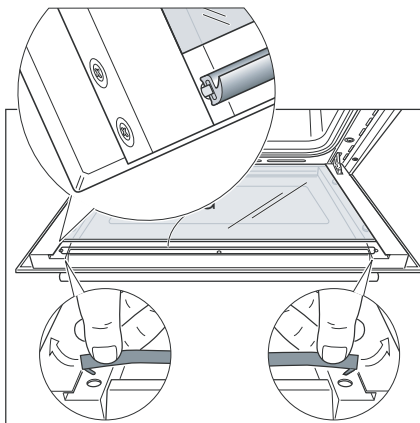

Fig. 26d
- Replace the seal "G" by hooking in the two fixing hooks. Make sure that you put it in the correct way. (Fig. 26d).